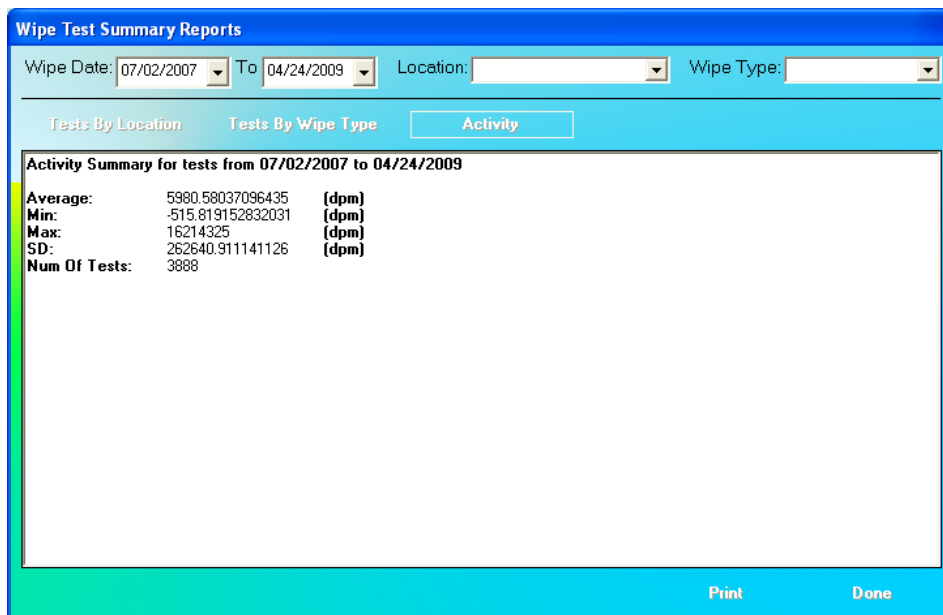

Figure 8-40 Summary Report – Activity
– Clicking this button will display a list showing an Activity Summary for the set criteria. The included data is average activity, minimum activity, maximum activity, the standard deviation of the activity and the total number of Wipe tests performed. Reference Figure 8-40 Summary Report – Activity.